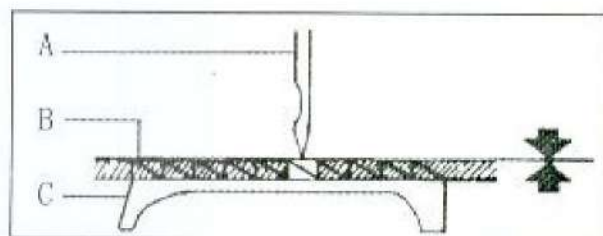

Fig 21
30、 Timing between needle and feed dog motion(Fig.21,22)
When needle point A reaches needle plate top surface B, feed dog surface C should be keep accordant on height (Fig.21) with needle plate top surface. It is the standard synchronous relationship. Adjustive method as below: